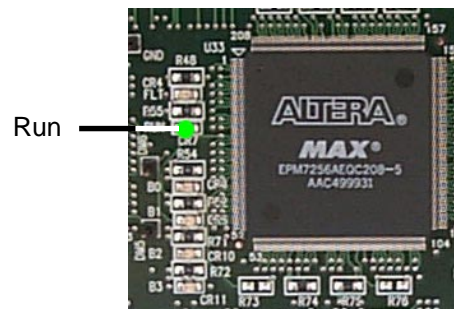

Figure 3-56
4. Run Led on for ~1 second at start of POST. (Figure 3-56)